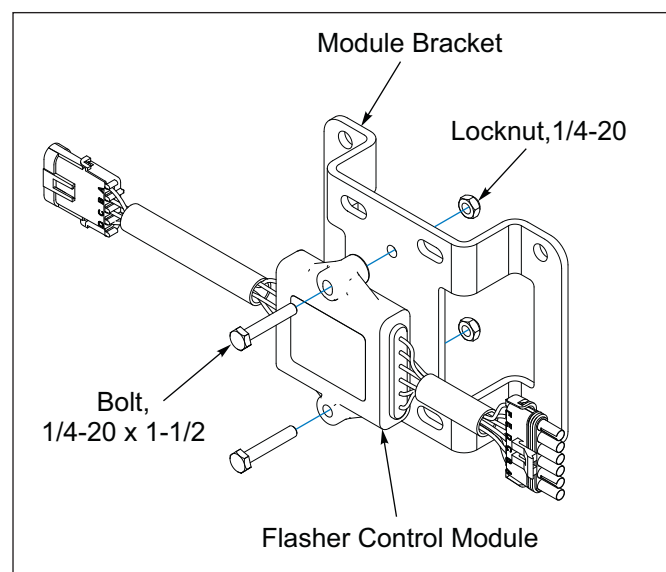

Figure 2-66: Flasher Control Module and Bracket (Before 08/2025)
2. Attach the Flasher Control Module to the Module Bracket with 1/4-20 x 1-1/2 Bolts and Locknuts. See Figure 2-66.